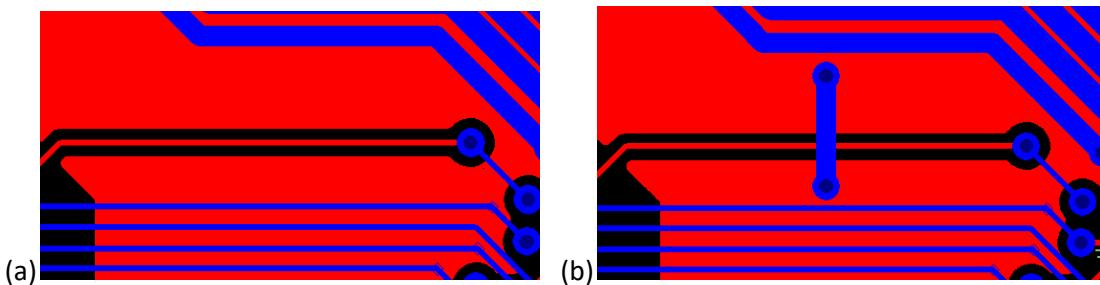

Fig. 3.3 Un-bridged (a) and bridged (b) ground plane
- (iv) If a layer is used for both routing and as a ground plane, caution should be taken when routing through the plane in order to avoid creating large return loops. If a trace must penetrate the plane then this should be bridged, as illustrated by fig 3.3.